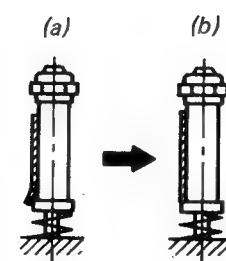

Fig. 1-4-7 No. 8 guide check
a.2) Adjust the ACE tilt adjusting screw until tape wrinkle is caused at the lower flange of No. 8 guide as shown in Fig. 1-4-7(a).
a.3) Turn the ACE tilt adjusting screw counter-clockwise until the tape travels along the lower flange as shown in Fig. 1-4-7(b).